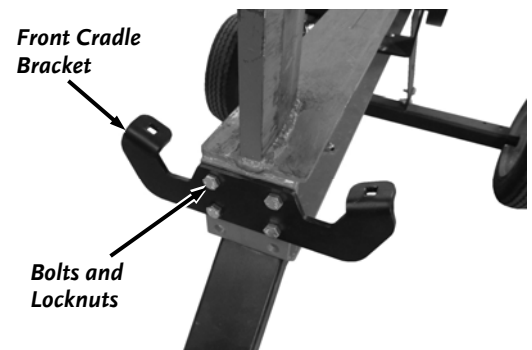

Figure 6
7. Install the front Cradle Bracket to the end of the Beam with four Bolts and Locknuts (from the cradle package) using two 9/16" Wrenches (**Figure 6**).